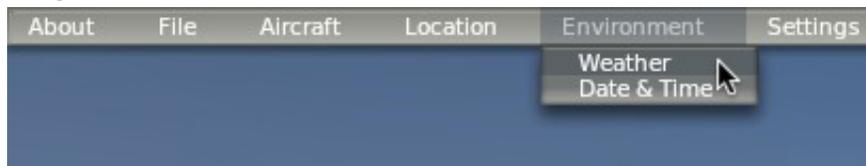

Figure 4.6: Selecting the Weather option from the Environment menu
1. Bring down the menu as above and click Environment, then Weather, as shown in Figure 4.6.